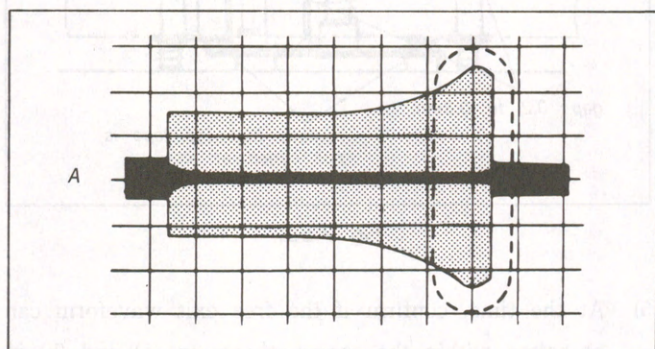
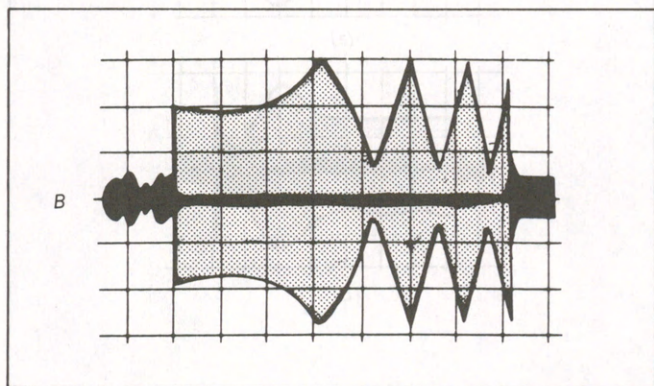

Fig. 7-54.
Fig. 7-55.
- If such a waveform as shown in Fig. 7-54 is taken, turn the tilt adjusting screw clockwise so that the waveform comes within them.
- If such a waveform as shown in Fig. 7-55 is taken, to turn the screw counterclockwise to make it as A shown in Fig. 7-54. Then turn the screw clockwise so that it comes within the ranges.